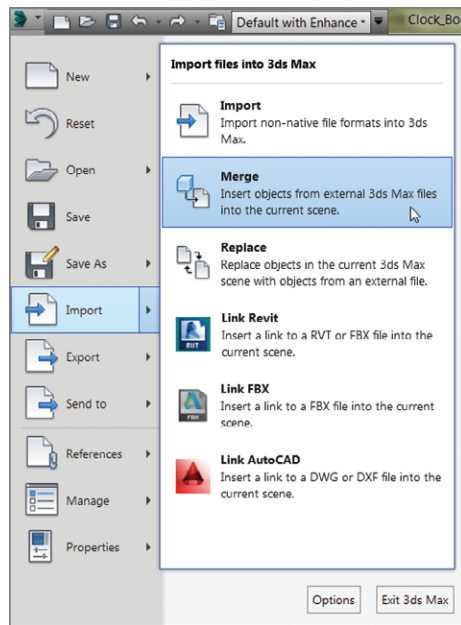

FIGURE 2.39 Merge is found in the Application menu under Import.
2. Click the Application button, choose Import, and click Merge, as shown in Figure 2.39.